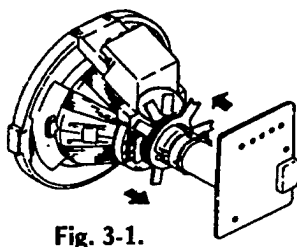

Fig. 3-1.
(See Figures 3-1 through 3-3.)
4. Move the deflection yoke forward and adjust so that entire screen is red. (See Figure 3-1.)